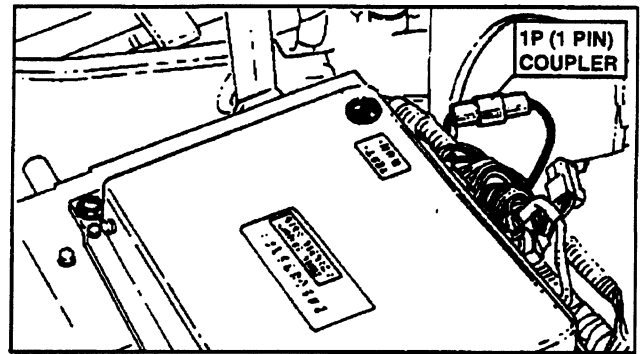

FIGURE 6.22A
10. Remove the Special Adjustment Harness from the 1P coupler and connect coupler together. See Figure 6.22A.